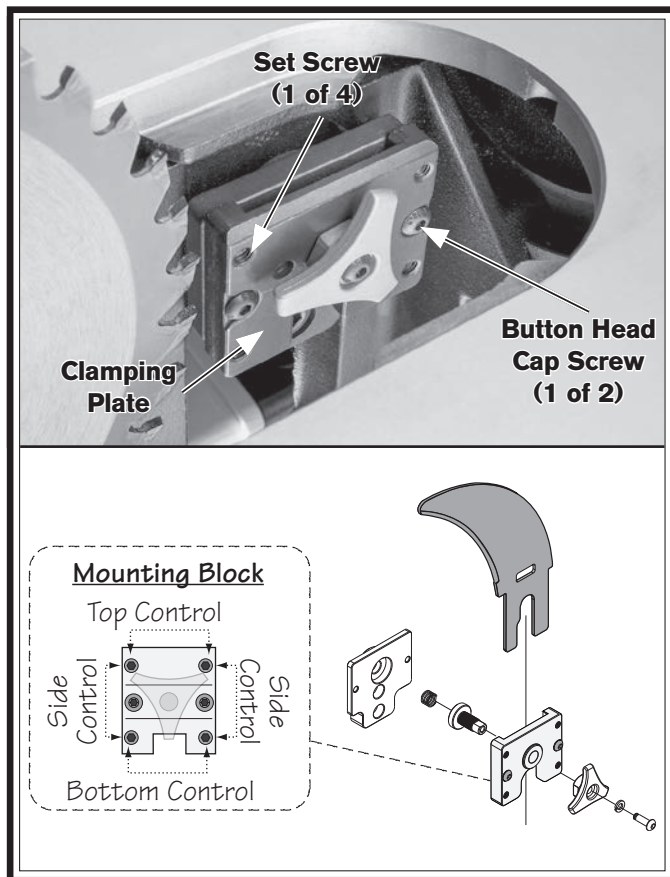

Figure 130. Set screws for adjusting spreader/ripping knife position.
3. Loosen (2) button head cap screws on mounting block, then adjust either top or bottom control set screws or side control set screws (see **Figure 130**) to move block in needed direction.